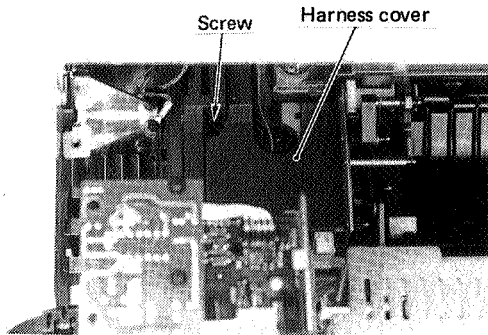

Figure 4-11
- (3) Remove the fastening screw to the wire harness cover. (See Fig. 4-11.)